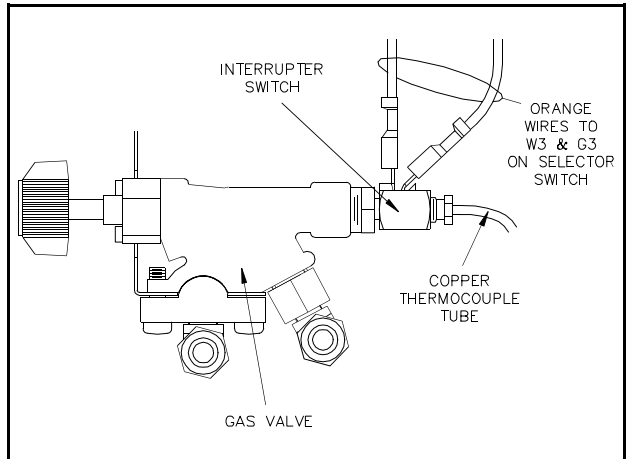

Figure 9 - View of Interrupter Switch
- * Check the orange wires from the Interrupter switch to the Selector switch to insure good connections from the Interrupter terminals to G3 & W3 on the Selector switch. Refer to Figures 9 and 10.